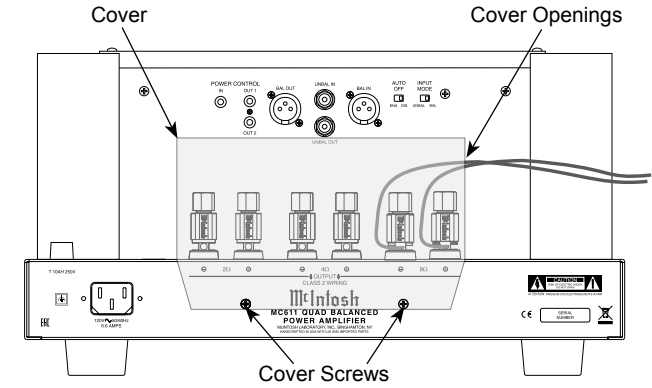

Figure 6 (Outside USA and Canada)
- Locate the Terminal Connections Cover from the inside of the MC611 shipping carton. Insert the just prepared Loudspeaker hookup cables thru the cover opening on the right side. Refer to figure 6.
Note: The illustration in figure 6 is connections for 8Ω (ohms) Loudspeakers.
- Attach the Terminal Connections Cover to the MC611 Rear Panel with the previously removed Screws. Refer to figure 6.